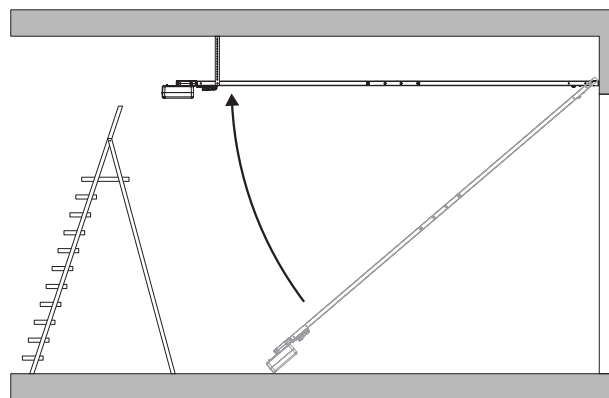

Fig.22
4) Use a ladder, lift the gear motor until it rests on the brackets on the ceiling (figure 22), mark the 2 drilling points, place the gear motor back on the ground.